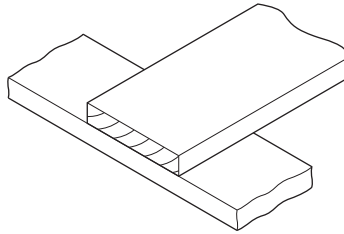

Fig. 1
- 1 Fig. 1 shows two pieces of hardwood that have been glued together.